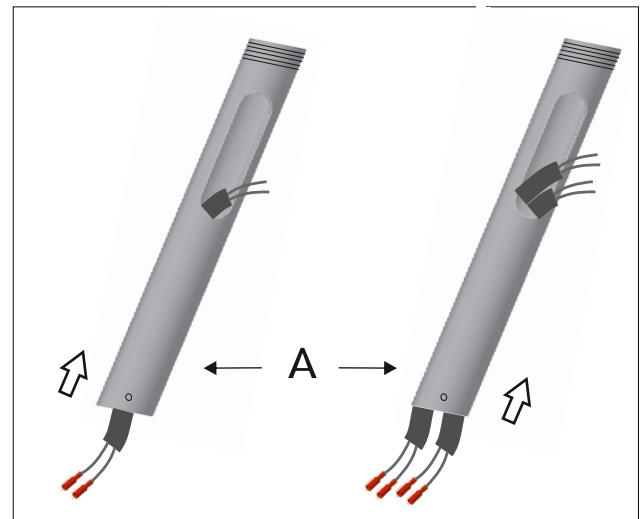

Figure 3
- 3 - Insert the electrical wires through the non-threaded end of the stem (A) and pull them out through the side hole at the upper part of the stem. Connectors must be at the opposite side of the thread. One stem should have one set of electrical wires. The other stem should have two. Figure 3.